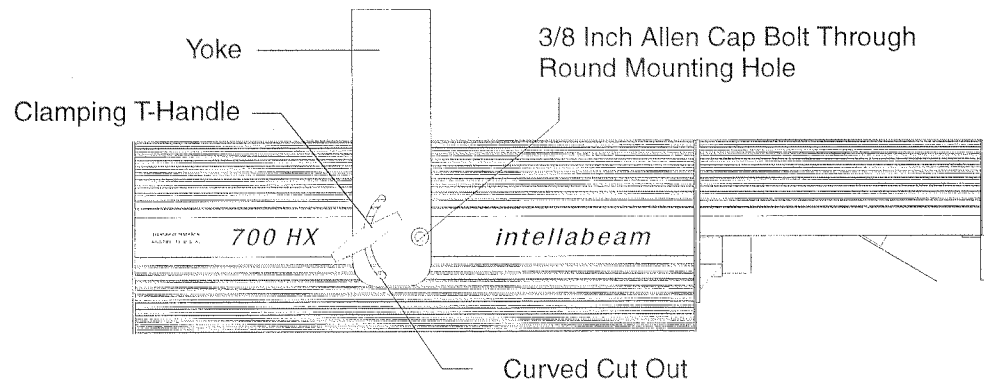

Figure 2.8. Installing the Yoke on intellabeam Fixture
1. First, remove the two 3/8 inch allen cap screw bolts and the two clamping T-handles from the fixture (you may have done this in a previous section). Refer to Figure 2.8.
2. Align the mounting holes on the yoke with those on the fixture as Figure 2.8 shows.